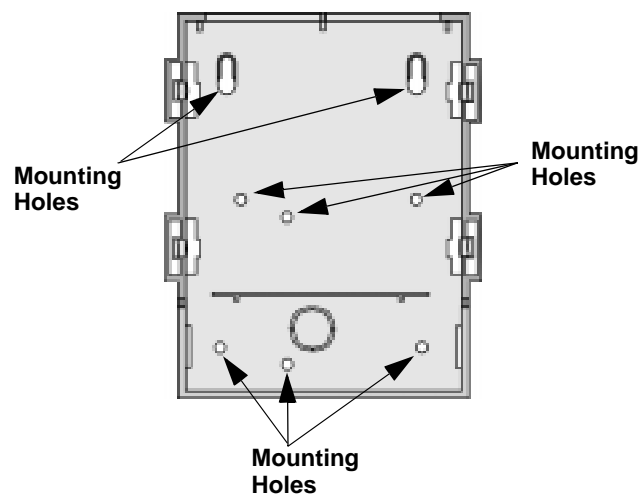

Figure 4-15 Base Mounting Holes
3. Mount the plastic base in a UL listed enclosure using any of the mounting holes in the plastic base. See Figure 4-15 for locations of base mounting holes.